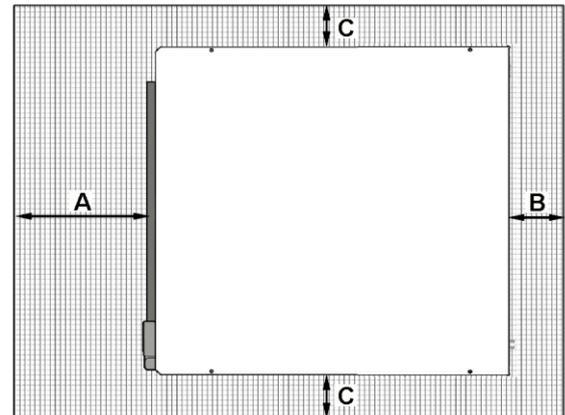

Fig. 3.1
A. Front (Fig. 3.1).
B. Rear (Fig. 3.1).
C. Sides (Fig. 3.1): Unrestricted. To be chosen according to requirements.